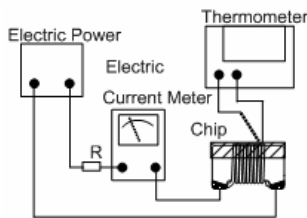

Fig. 6.3.5-1
- d. Definition of Rated Current (I_r): I_r is direct electric current as chip surface temperature rose just 20°C against chip initial surface temperature (T_a) (see **Fig. 6.3.5-2**).